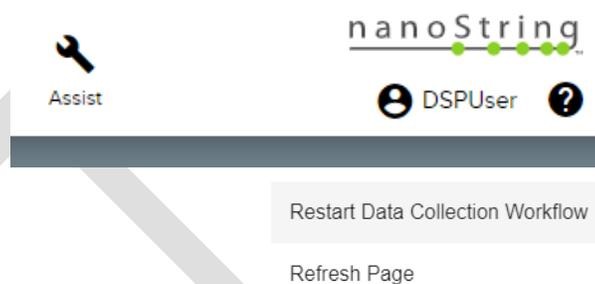

Figure 1: Assist wrench icon to Restart Data Collection Workflow and Refresh Page.
1. In the event of a failed run and with the advice of GeoMx support, it is possible to restart the workflow. To do so, click the **Assist** wrench icon (Figure 1) and select **Restart Data Collection Workflow**.
2. If the screen appears **blank, inaccurate, or unresponsive**, **refresh the page**. This may be performed remotely or directly at the instrument. To do this, use keyboard shortcuts **Ctrl+R** or **F5** or click the **Assist** wrench icon (Figure 1) and select **Refresh Page**. You may also use **Ctrl/Alt/Delete** to log out of and then back into Kiosk mode.
- When first opening the GeoMx software after rebooting, click on **Assist** wrench icon (see Figure 1) > **Restart Data Collection Workflow**.